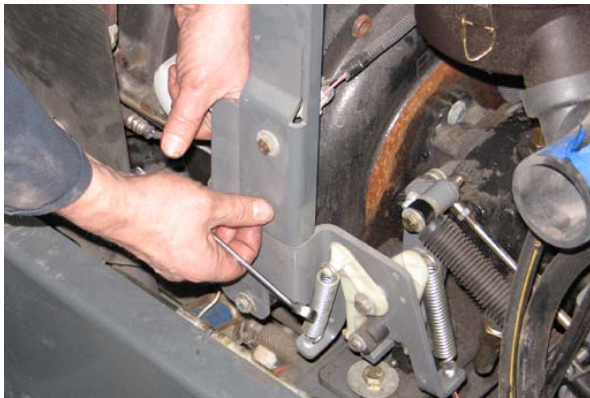

FIG. 2
5. Remove the hardware holding the air cleaner bracket to the machine and move the air cleaner / air cleaner bracket away from the scrub vacuum fan. (Fig. 2)